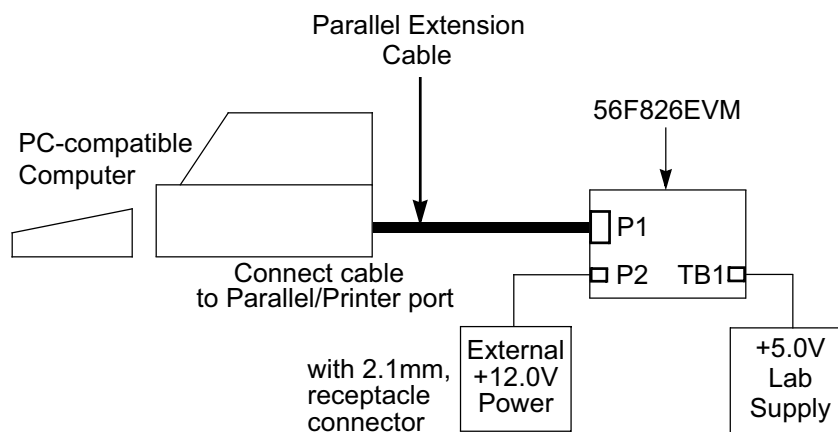

Figure 1-3. Connecting the 56F826EVM Cables
An interconnection diagram is shown in Figure 1-3 for connecting the PC and the external +12.0V DC power supply or external +5.0V DC lab power supply to the 56F826EVM board.
2. Connect the other end of the parallel extension cable to P1 on the 56F826EVM board as shown in Figure 1-3. This provides the connection which allows the host computer to control the board.
4. Connect the 2.1mm output power plug from the external switching power supply into P2 on the 56F826EVM board, as shown in Figure 1-3. Optionally, attach an external +5.0V DC lab power supply via the 2-pin terminal block, TB1.